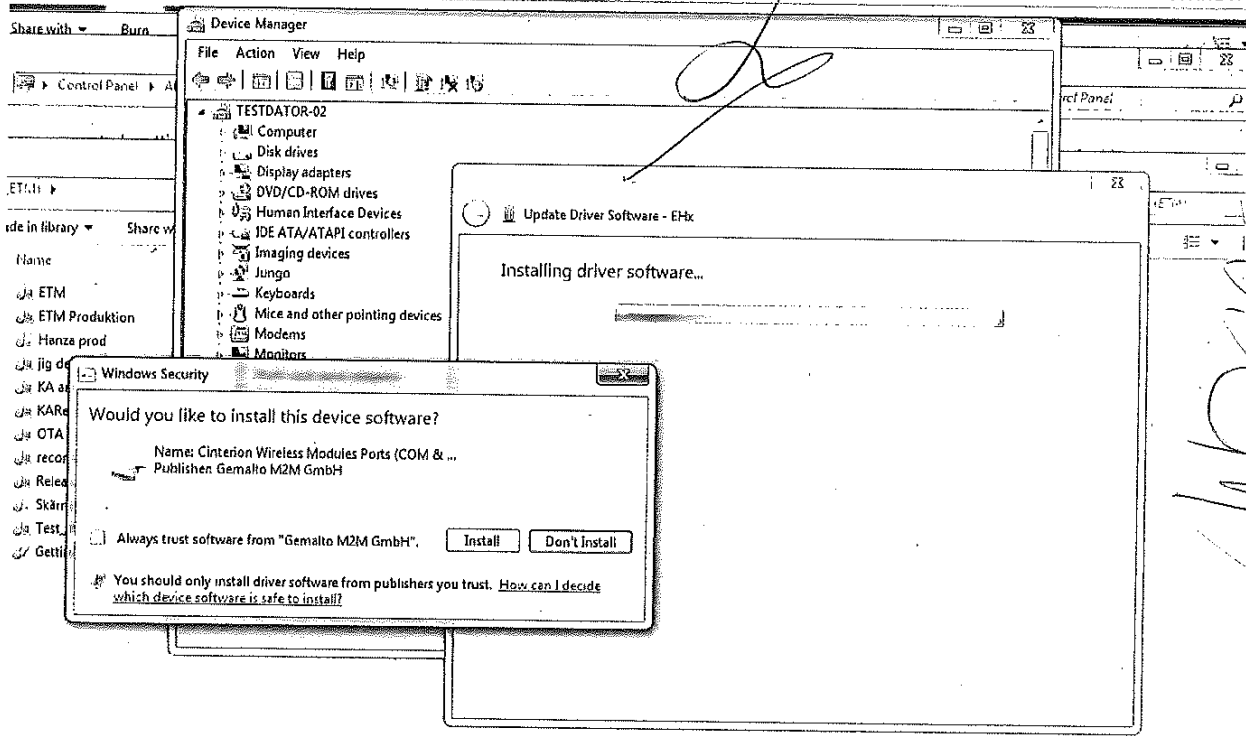

Figure 10. USB driver installation, find the driver locally.
- Click on the "Install" button, see figure 10.